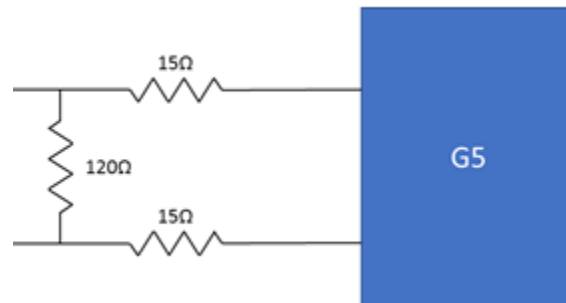

Figure 3-6 CAN Bus Termination for G5 on M27500 Wire
- If a G5 is installed using shielded twisted-pair cable, MIL-C-27500 and is at the end of the CAN bus backbone a 120Ω resistor is installed in the wiring harness (Figure 3-6).